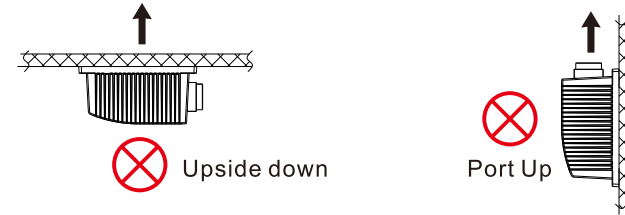

Fig.3
b. Wrong ways of mounting (see Fig.3):